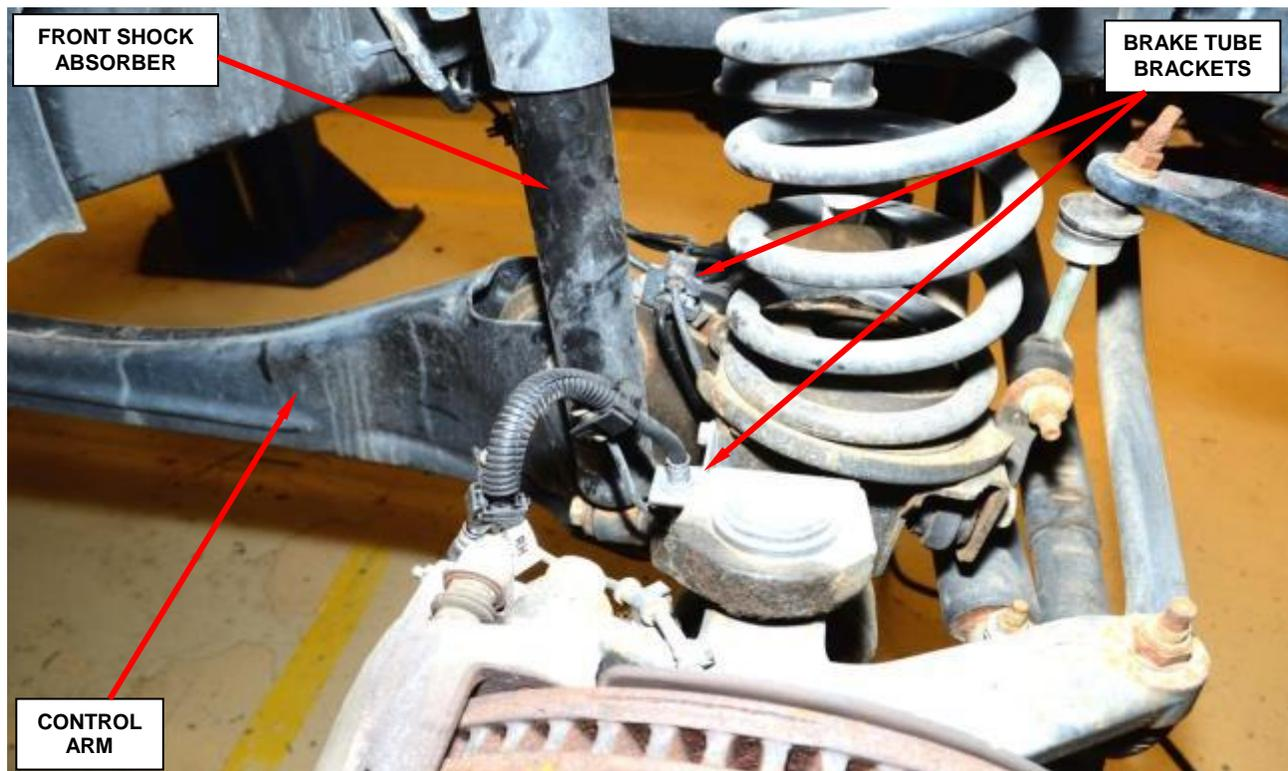

Figure 65 – Brake Tube Brackets
5. Remove and save the brake tube bracket bolt from the right and left control arm brackets (Figure 65).
6. Remove and save the brake tube bracket bolt from the right and left coil spring lower bracket (Figure 65).